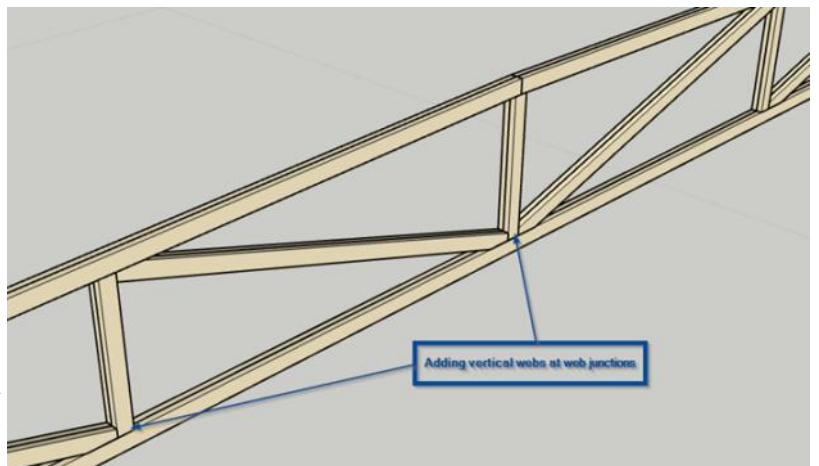

Figure 3 Vertical webs at web junctions in parapets
- Add vertical webs at web-to-chord junctions to increase stiffness and improve load distribution. Vertical webs should be spaced no more than 900 mm apart, subject to specific project needs (refer to Figure 3).